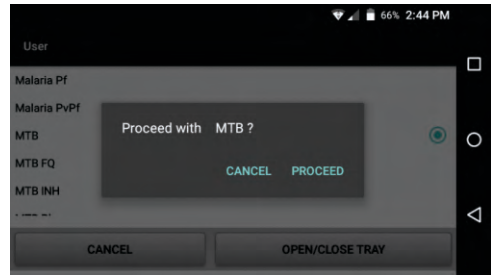

Figure 13: Profile Confirmation Prompt
4.2.3.2 Tap the **"Proceed"** Button on this pop-up as shown in Figure 13. The **Sample Details Form** will be displayed.